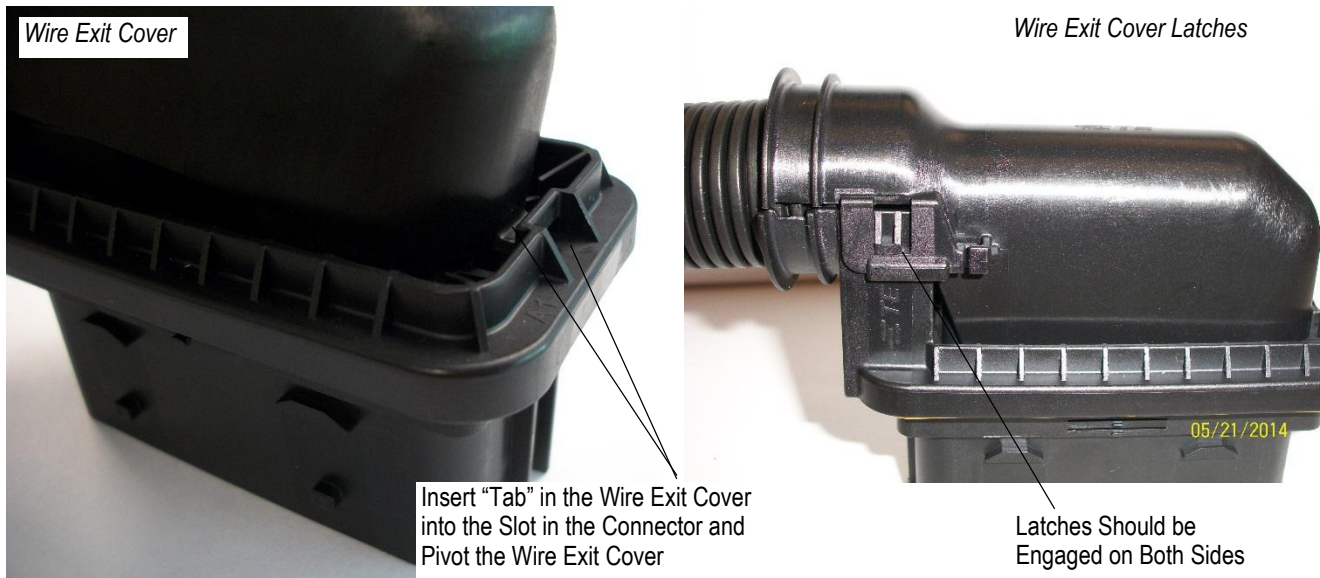

Figure 18
4. Insert the tab in the wire exit cover into slots in the connector halves and pivot the wire exit cover so that the latches snap in place. For applications using a conduit, ensure that the rib in the wire exit cover engages the slot in the conduit. See Figure 18.